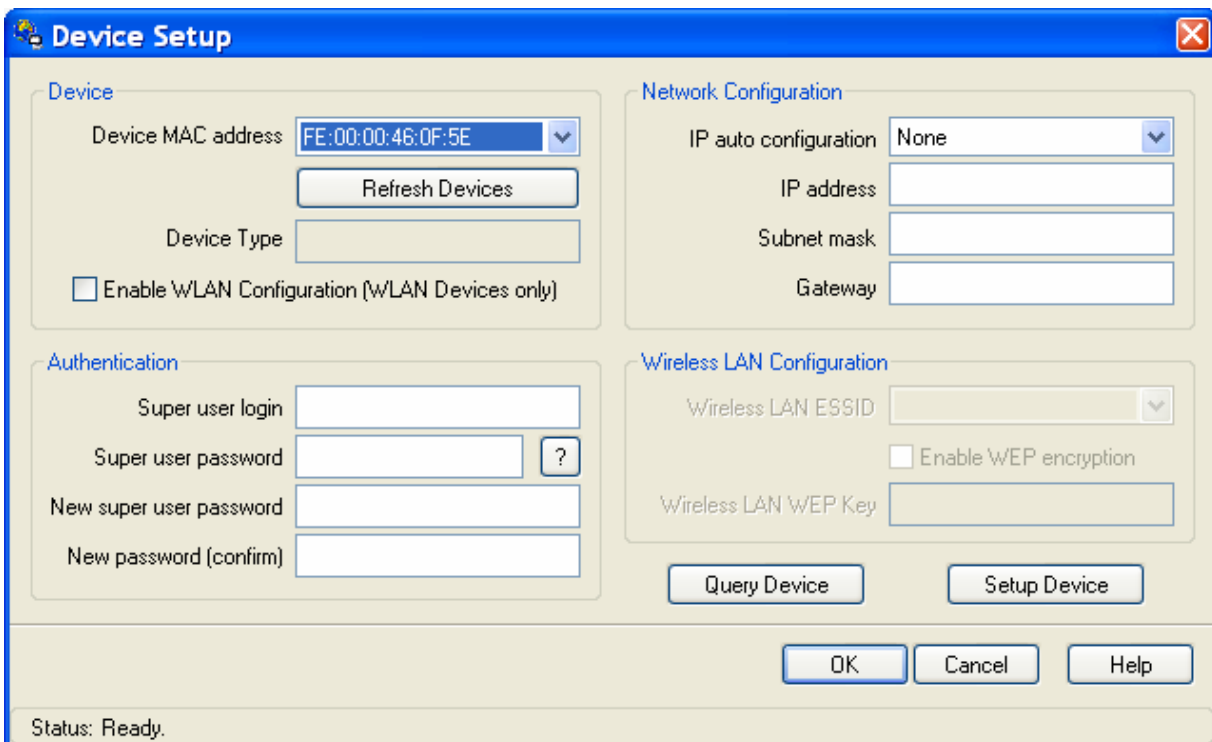

Figure 1-2: KVM Setup Program
3. A screen similar to Figure 1-2 will be displayed.